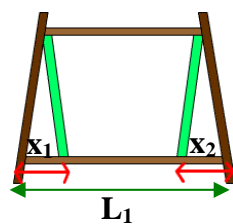
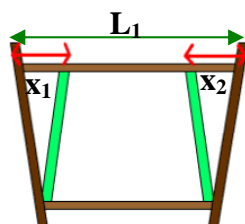

Figure 9a
Figure 10a
- 4.7.3 For adjacent floors in the model, if the floor above is wider than the one below when viewed from the side, such as in Figures 9a and 9b, the projection length of the bracing to the floor below,  $x_i$ , should be used, and  $L_i$  should be taken as the column spacing on the bottom floor. Meanwhile, if the floor below has a larger width than the one above, as in Figures 10a and 10b, then  $x_i$  should be the upward projection length of the bracing to the floor above, while  $L_i$  is the column spacing on the top floor.